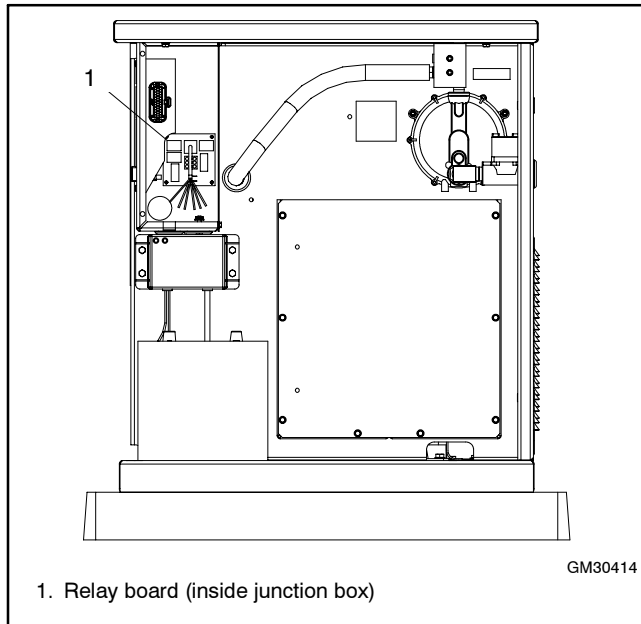
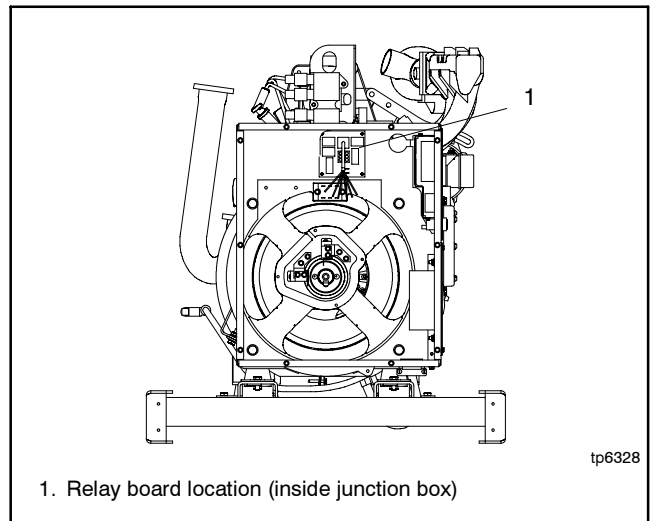
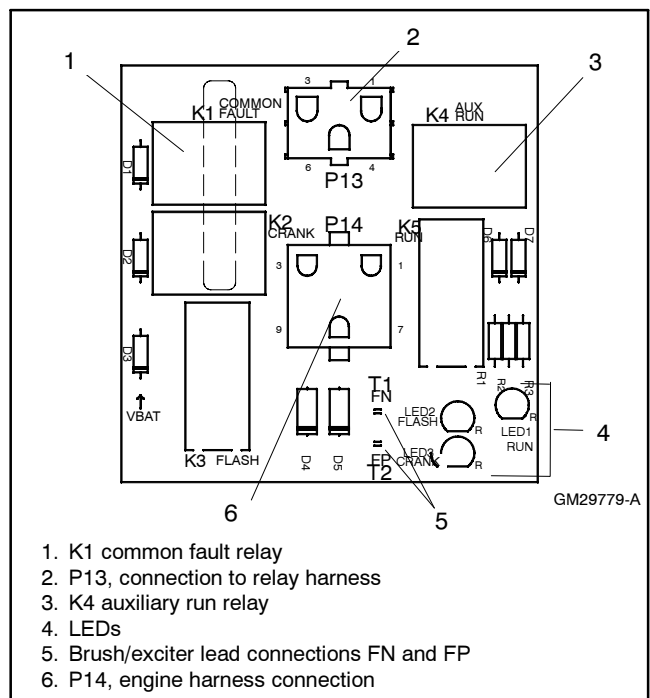

Figure 1 Relay Board Location, Models 8.5/12RES
Figure 2 Relay Board Location, Models 15/30RES and 15/30RYG
Figure 4 Run/Common Fault Relay Board GM29779
The common fault/run relay board kit GM30414-KP1 includes the five-relay interface board and a connection harness. The kit replaces the standard three-relay interface board located in the junction box. See Figure 1 through Figure 3.
4. Remove the junction box panel to locate the relay board mounted inside the junction box. See Figure 1, Figure 2, or Figure 3. Disconnect P14 and the brush/exciter leads FP and FN. See Figure 4.
7. Connect P14 and the brush/exciter leads FP and FN to the new board. See Figure 4.
8. Connect wiring harness GM30539 to plug P13 on the RIB. See Figure 4.